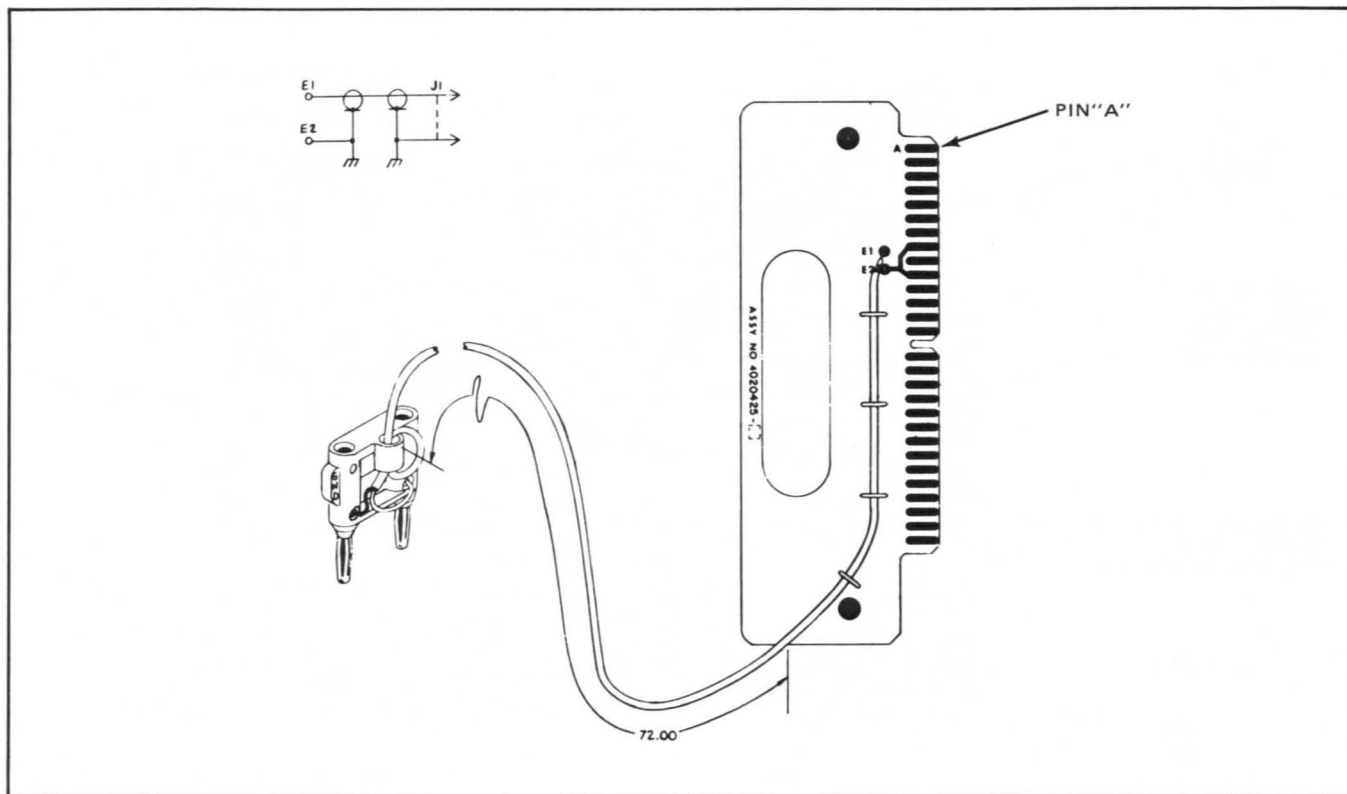
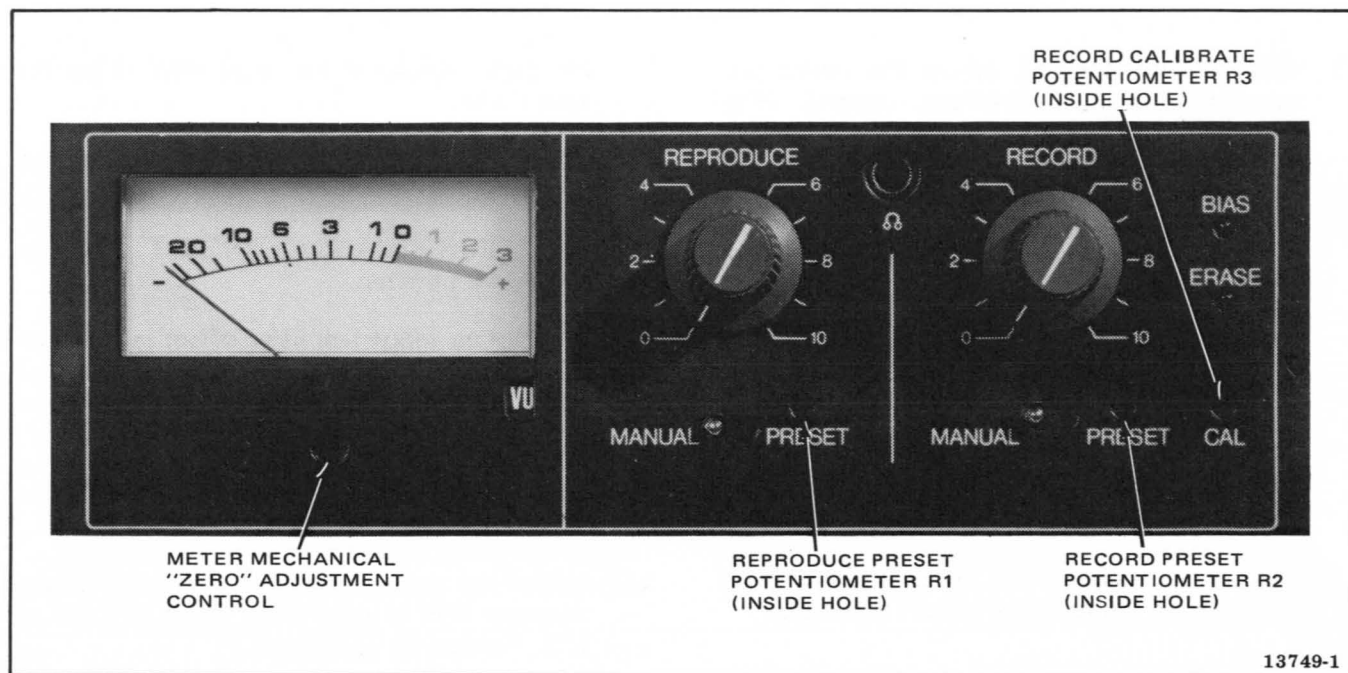

Figure 5-15. I/O Level Set Accessory
Figure 5-16. Input/Output Module Adjustment Control Locations
Two methods for adjusting the input and output levels are presented. Method 1 requires a jumper/clip lead and standard test equipment interconnect cables. Method 2 requires an I/O Level Set Accessory (Ampex Part No. 4020425) shown in Figure 5-15. This accessory consists of a printed circuit board that is plugged into the ATR-100 electronics assembly (on an extender board) in place of the standard audio PWA. The accessory connects the signal input and output of the input/output assembly together and provides a coaxial cable fitted with a GR plug that connects to an ac voltmeter. Each method will enable equal results but method 2 is more convenient for the user and, therefore, is the preferred method. Refer to Figures 5-16 and 5-17 and proceed as follows:
1. With power removed, adjust the meter mechanical "zero" adjustment control (Figure 5-16) for mechanical zero (meter at left-hand dial position).
4. Adjust record preset potentiometer R2 (Figure 5-16) for -5-dBm level at TP6.
7. Adjust record calibrate potentiometer R3 (Figure 5-16) for +4-dBm level on the ac voltmeter (or other line output operating level selected by the user).
6. Apply power and adjust reproduce preset potentiometer R1 (Figure 5-16) for +4-dBm level on the ac voltmeter (or other line operating level selected by the user).
3. Install I/O level set accessory connector (Figure 5-15) into extender board with pin A in the uppermost position. Connect cable to ac voltmeter.
7. Apply power and adjust record preset potentiometer R2 (Figure 5-16) for -5-dBm level on the ac voltmeter connected to the I/O level set accessory.
10. Adjust record calibrate potentiometer R3 (Figure 5-16) for +4-dBm level on the ac voltmeter (or other line output operating level selected by the user).
13. Adjust reproduce preset potentiometer R1 (Figure 5-16) for +4-dBm level on the ac voltmeter (or other line output operating level selected by the user).